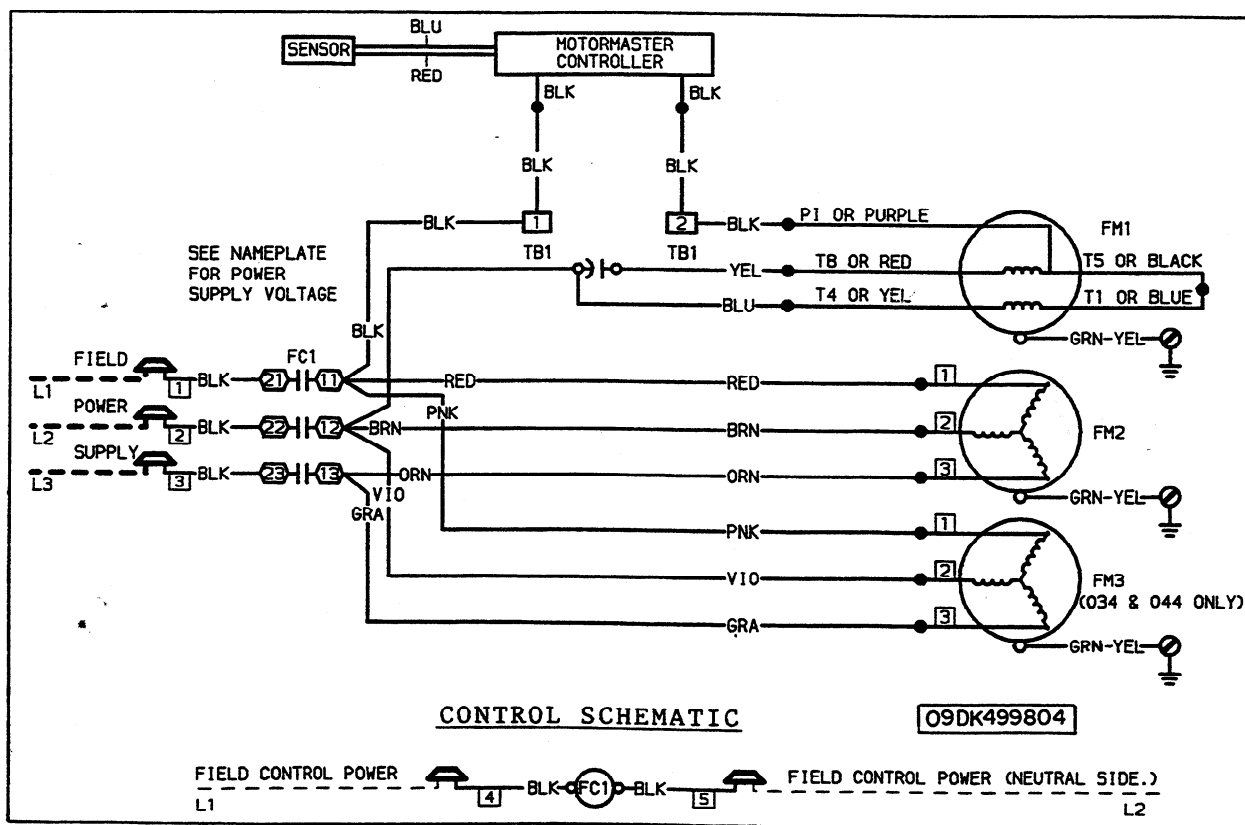

Fig. 5 — Motormaster® Control; 208/230-Volt Units
9. Connect yellow wire from capacitor to the red wire (T8) in the speed control motor junction box. Use wire nut to connect. See Fig. 5 or 6. Connect blue wire from other side of capacitor to the yellow wire (T4) in the speed control motor junction box. Use wire nut to connect.
11. On the 208/230-v motor, tie the blue (T1) and black (T5) wires in the motor junction box together. See Fig. 5.
Connect a field-supplied wire from TB1 terminal 1 to one of the black wires in the Motormaster controller. Use wire nut to connect. See Fig. 5 or 6.
POWER WIRING — Refer to Fig. 5, 6 and 9 for wiring of Motormaster® control to condenser fan motors.
1. Locate the Motormaster control and sensor as shown in Fig. 5, 6, 8 and 9.